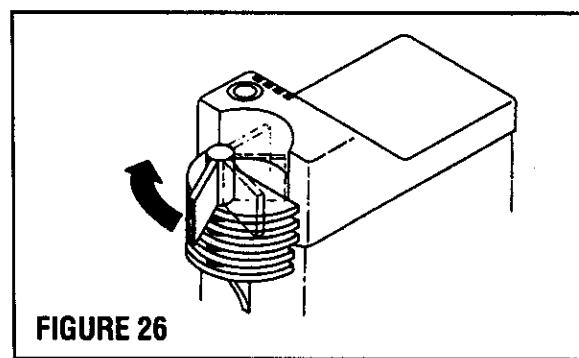

FIGURE 26
2. Rotate the Lock Tab at the rear of the Housing Cap to unlock the Cap. (Figure 26)